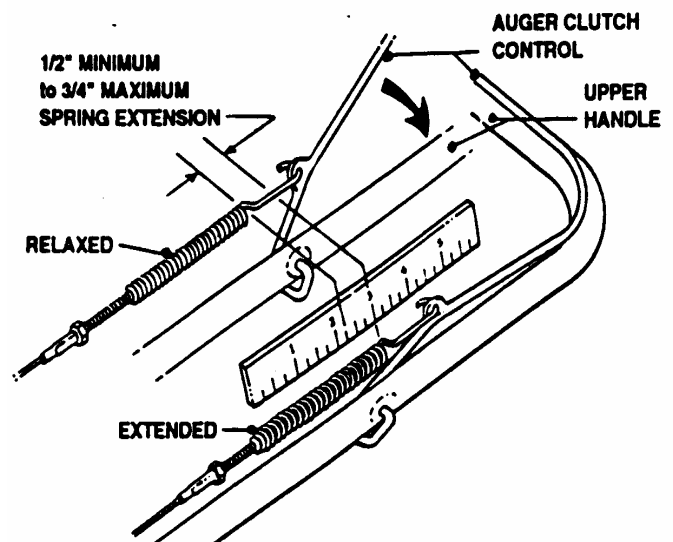

FIGURE 3
STEP 3: Measure auger clutch control cable extension from a relaxed position to full extended position. Proper extension should be between 1/2" minimum to 3/4" maximum extension. NOTE: Measure from the top of spring (The top is in relation to where spring hooks into auger clutch control). Loosen jam nut at the upper end of cable. Hold threaded end of cable and then turn cable clockwise until correct extension is achieved. Retighten jam nut. **IMPORTANT:** DO NOT over tighten cable. The cable must have slack for the auger brake to function properly. See Figure 3.